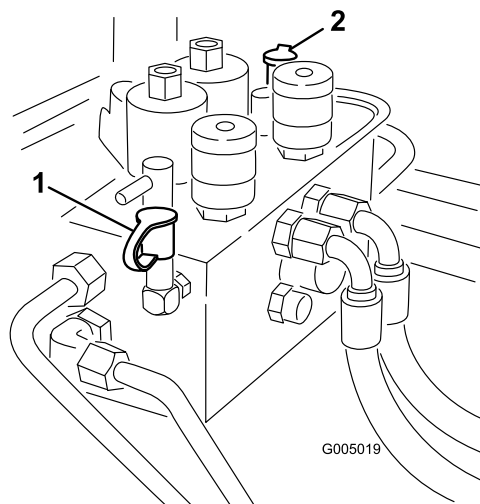

Figure 81
2. Test Port B (Figure 81) is used to assist in trouble shooting the hydraulic circuit for the front cutting units.
3. Test Port C (Figure 81) is used to assist in trouble shooting the hydraulic circuit for the rear cutting units.